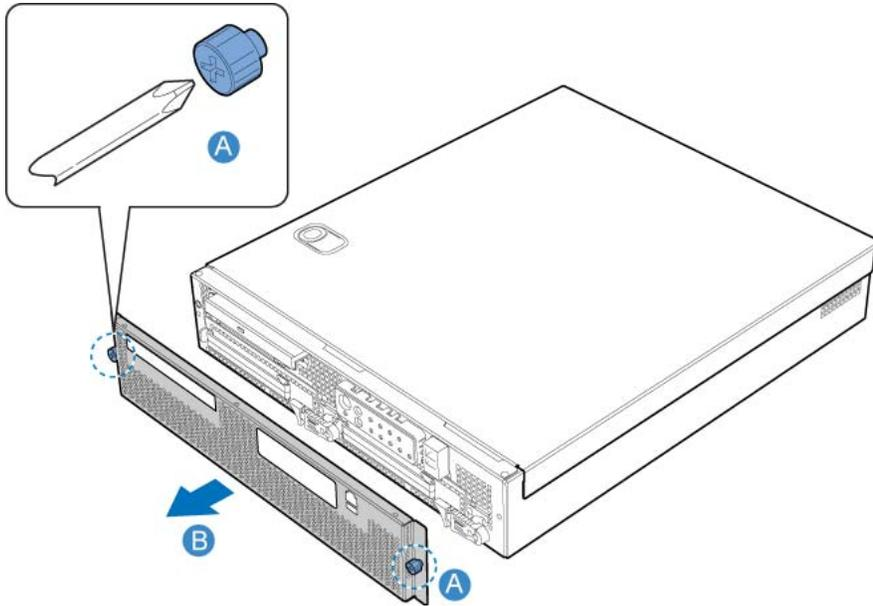

Figure 11: Front bezel
Loosen the captive screws (A) on both sides of the front bezel. The screws cannot be removed from the front bezel. Refer to Figure 11: Front bezel on page 70.